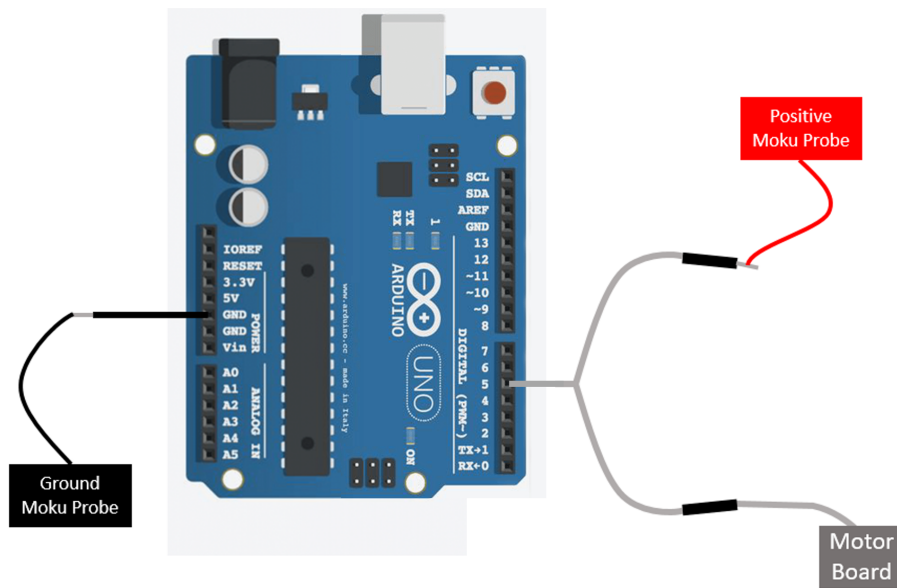

Figure 2
6. Your setup should now look like Figure 2. All other wires should still be connected as they were previously.